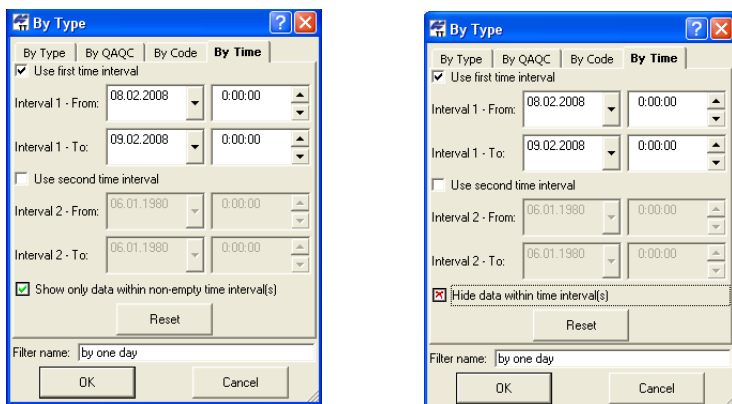

Figure 4-72. Select By Time Filter
To hide/display data basing on time, select the *By Time* tab on the *By Time* dialog box (Figure 4-72 on page 4-74).
2. On the *By Time* tab, select the *From* and *To* time filters for *interval 1* and *interval 2* to apply to the job and select hide/display data within the specified time interval (Figure 4-72 on page 4-74).
3. Click **Reset** to reset the time intervals (Figure 4-72 on page 4-74).